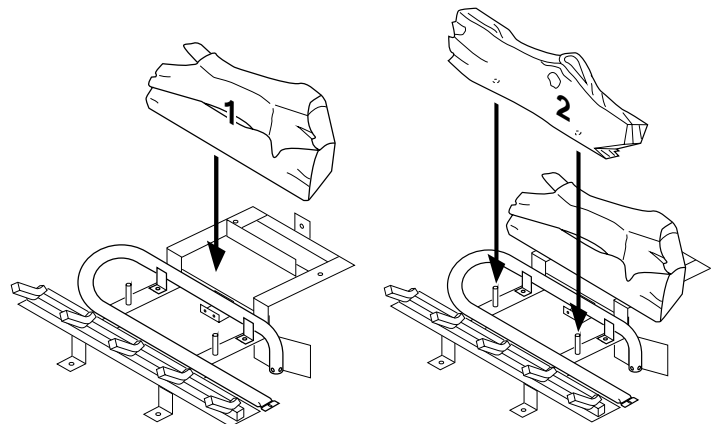

Figure 50 - Installing Log No. 1 Figure 51 - Installing Log No. 2
2. Place log #1 (back log) on top of grate. Make sure the notches in the bottom of the log fit over the grate (see Figure 50).